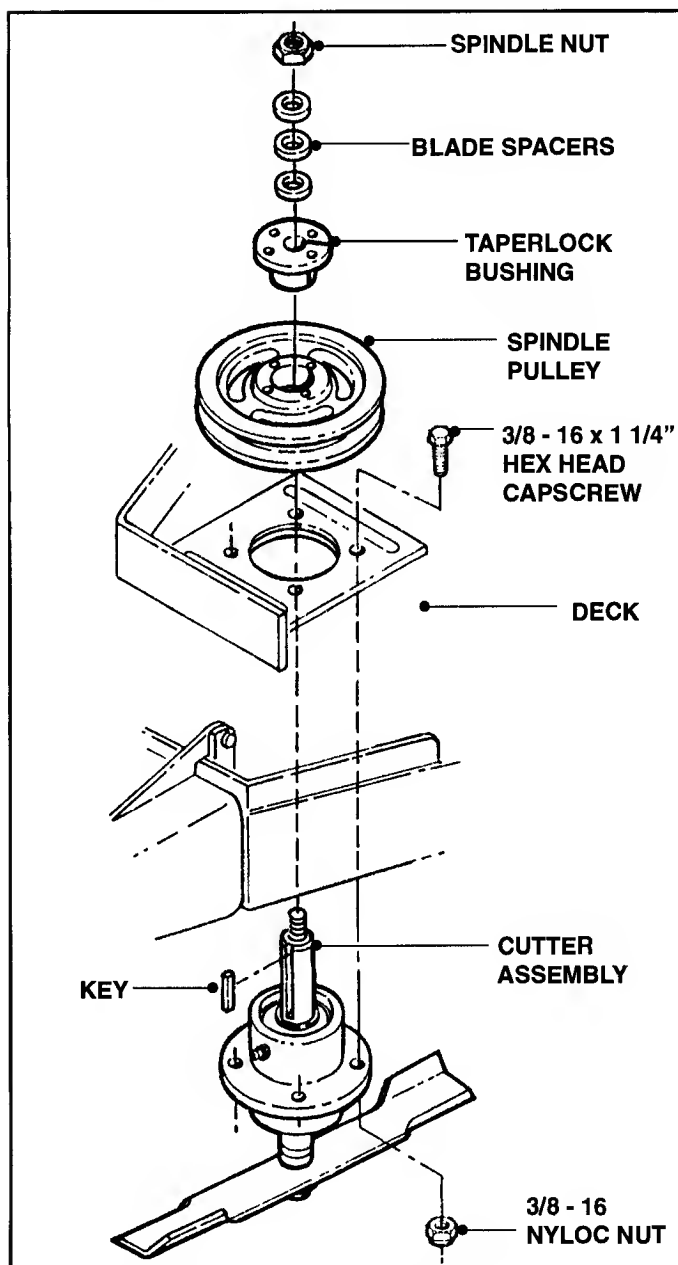

FIGURE 4.1
- D. Remove Spindle Nut and any Blade Spacers from top of Spindle. See Figure 4.1.